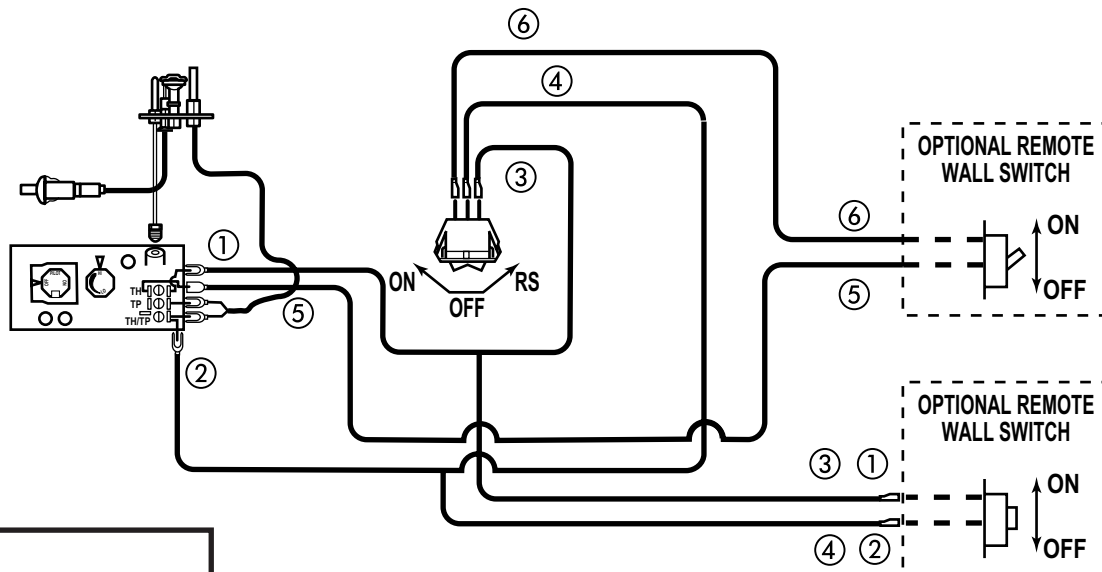

Figure 38 - Wiring Diagram for Wall Switch
A remote wall switch and up to fifteen (15) feet of 18 Ga. wire may be used with this appliance. Attach the wall switch in a junction box at the desired location on the wall. *See Figure 38.* Do not extend beyond the wall switch wire length provided.